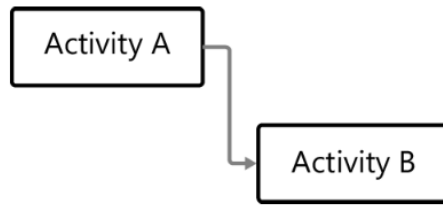

FIGURE 4-3 Finish-to-start relationship.
Finish-to-start (FS) A finish-to-start relationship is one in which the successor activity cannot start until the predecessor activity has finished. For example, you cannot erect the walls of a house until the foundation has been completed. Figure 4-3 depicts how this would be represented diagrammatically.